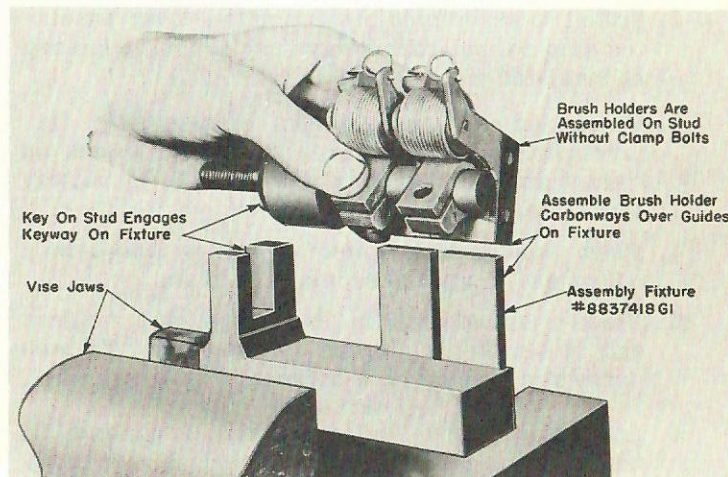

Fig. 9-11
1. Clamp assembly fixture in a vise. See Fig. 9-11.